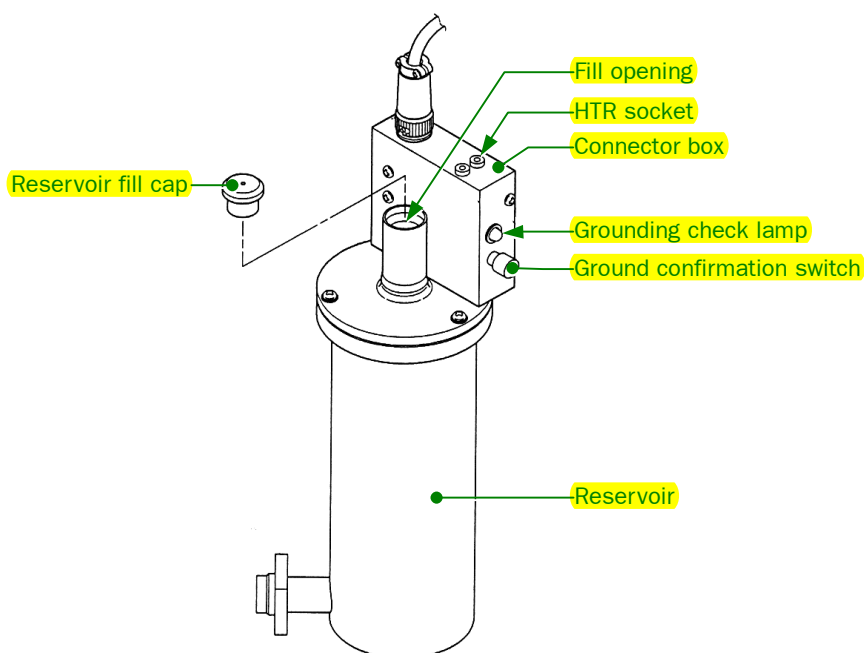

Fig. 5.40 Anti-contamination device reservoir assembly
1. Make sure that the column pressure is below 0.1 Pa (10^{-3} Torr) and the ground indication lamp does not light when its switch is pressed (Fig.5.40).